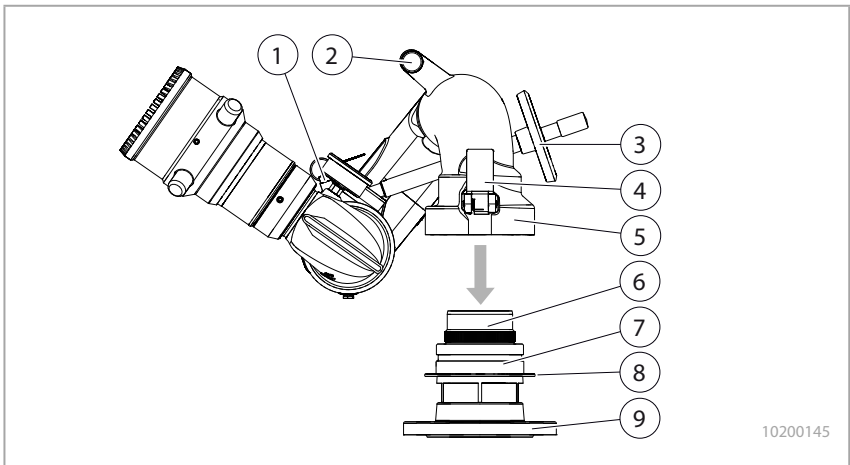

Fig. 9 Handling the stationary monitor
- ✓ The truck mount flange (Fig. 9/9) is connected with the pump.
1. Release the rotation lock (Fig. 9/4) upwards.
2. Place the quick-fitting system (Fig. 9/5) of the monitor on the lower part of the quick-fitting system (Fig. 9/6) on the truck mount flange. The release ring (Fig. 9/8) must not engage and the monitor must be free to rotate.
4. Check whether the elevation minimum angle override (Fig. 9/1) is fixed in place to restrict the elevation angle.
- Rotating movements (horizontal) with the carrying handle (Fig. 9/2)
- Height adjustment (vertical) with the handwheel (Fig. 9/3)
2. Activate the rotary damper by pressing down the rotation lock (Fig. 9/4).
6. Pull the release ring (Fig. 9/8) upwards and pull the monitor up and out of the quick-fitting system.